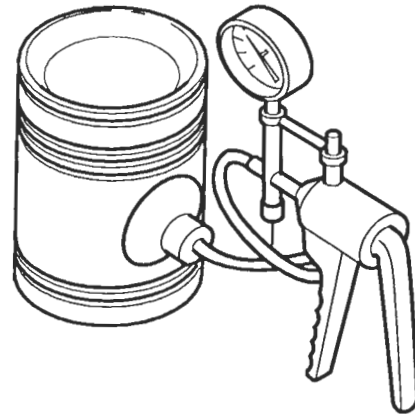

Figure 11. Checking Piston Pin Retainer for Proper Sealing
6. One important function of the piston pin retainer is to prevent the oil, which cools the underside of the piston and lubricates the piston pin bushings, from reaching the cylinder walls. Check each retainer for proper sealing with leak detector J 23987 (Figure 11.) Place the suction cup over the retainer and hand operate the lever to pull a vacuum of ten inches on the gage. A drop in the gage reading indicates air leakage at the retainer.